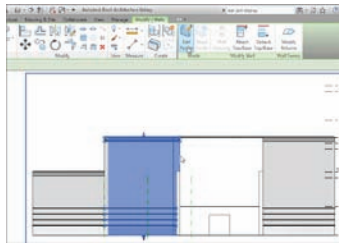

FIGURE 3.42 Selecting the wall to be modified
2. In this section, select the east wall of the west wing, as shown in Figure 3.42.